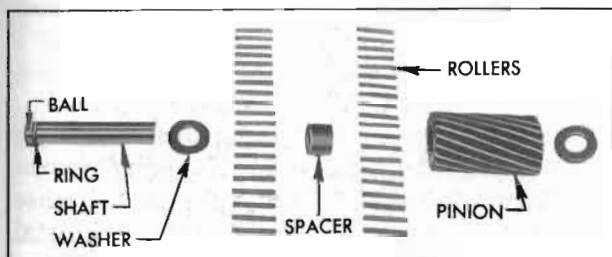

Figure 4-125—Low Planet Pinion, Disassembled
Note that the reverse planet pinions have a single set of rollers and the low planet pinions have two sets of rollers separated by a spacer. See figure 4-125.
1. Re-assemble planet pinions and shafts with bearing rollers and thrust washers. The bottom thrust washer goes between retaining ring on shaft and the end of pinion. Each reverse planet pinion contains 24 rollers. Each low planet pinion contains 20 rollers at each end separated by a spacer. See figure 4-125. Place a thrust washer on upper end of each assembly to hold rollers in place.